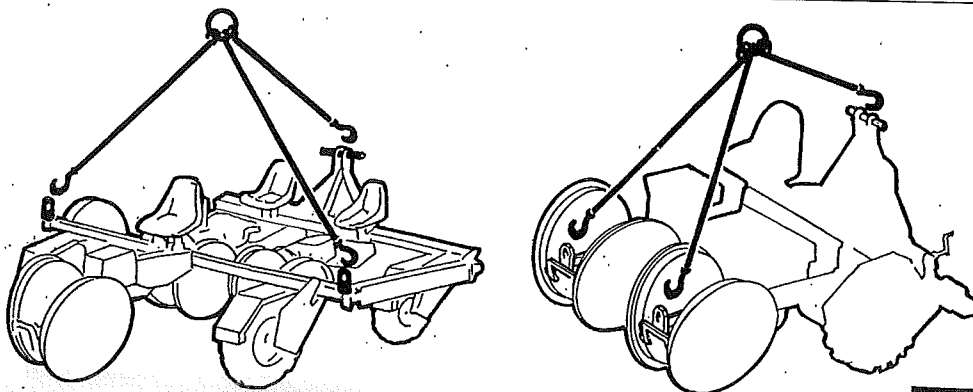

FIG. 3
6.2 - Fix hooks, ropes, chains, etc., in the three positions shown in fig. 3.